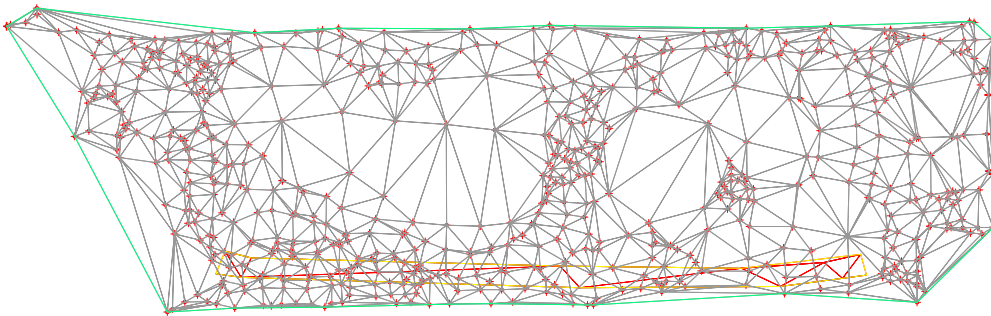

Figure 3-64 The EG surface created after adding the point group
5. Select the **_All Points** group and choose the **OK** button; the point group is added to the surface and the surface is displayed, as shown in Figure 3-64.